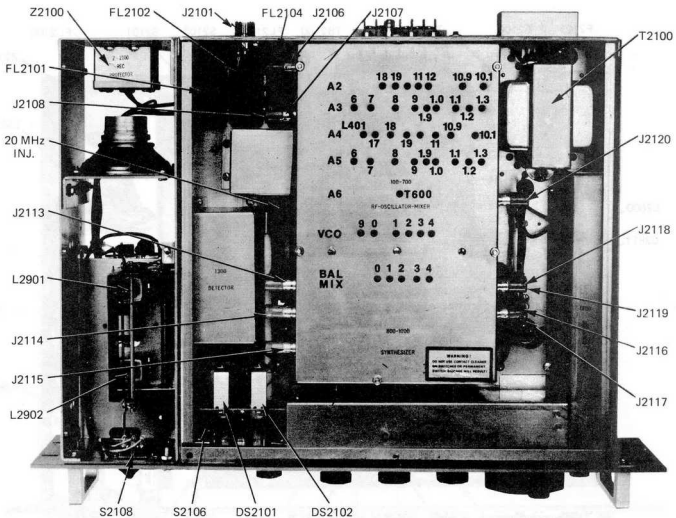

Figure 5-3. Alignment Locations, Top View
Refer to figures 5-3 through 5-6 for adjustment locations and test points.
- b. Refer to figures 5-3 and 5-4. Attach the DC probe of a VTVM to the control line (J2113) from the Programmable Divider card in the Synthesizer.